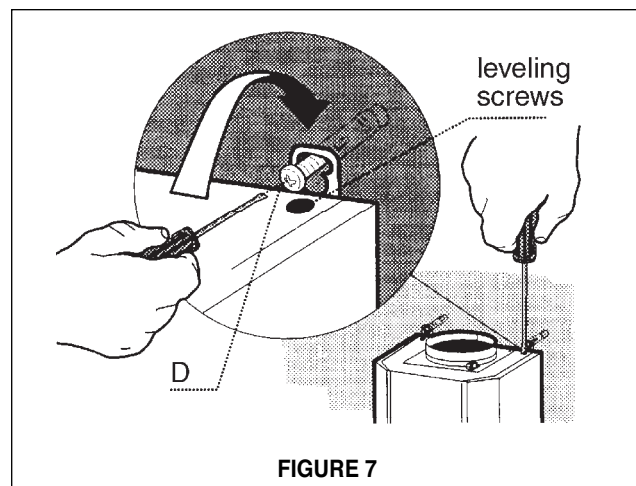

FIGURE 7
2. Before mounting the **CANOPY SECTION**, tighten the two leveling screws located near the **CANOPY SECTION** mounting points as indicated in **FIGURE 7**.
3. Hook the body on to the **MOUNTING SCREWS (D in FIGURE 7)** and fully tighten the **MOUNTING SCREWS**.